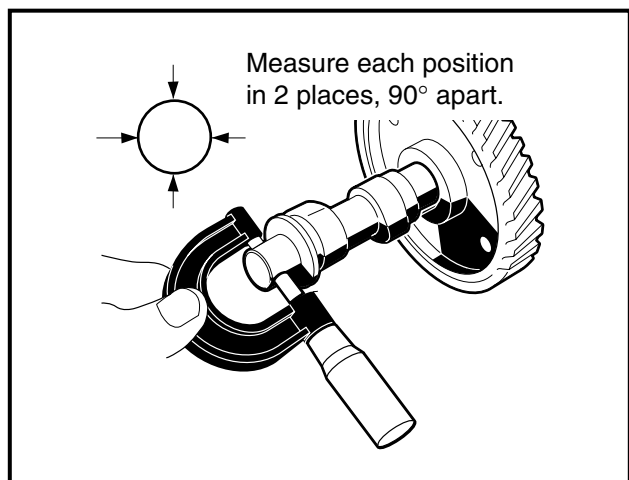
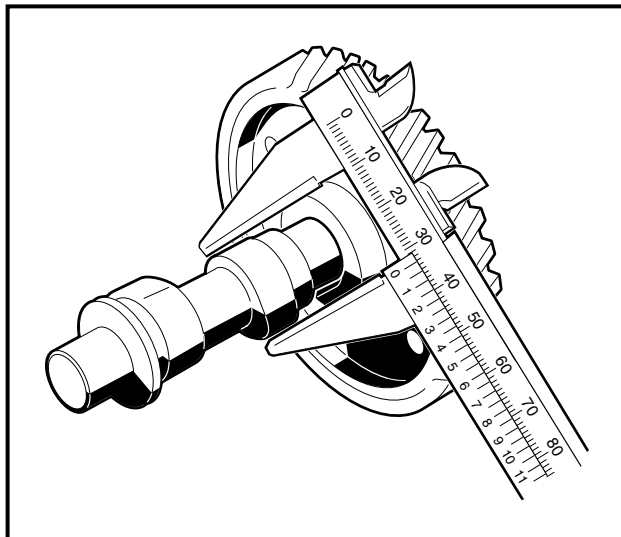

Figure 13-49 Measure O.D. of Camshaft Journals
Figure 13-50 Measure O.D. of Camlobes
5. Measure the camshaft journals and camlobes with a micrometer at the points shown (**Figure 13-49, Page 13-25 and Figure 13-50, Page 13-26**).